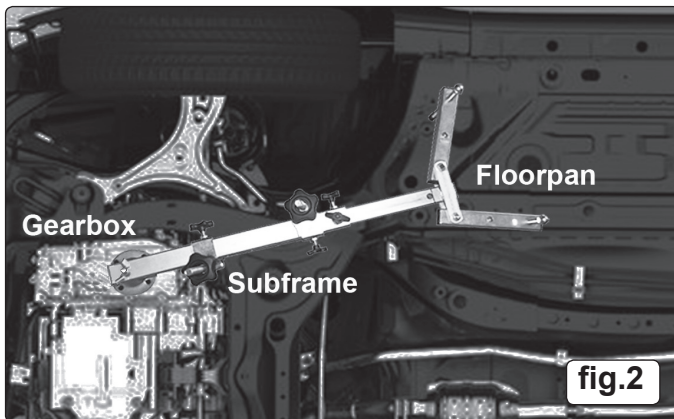

fig.2
- 4.5. Offer up to the vehicle and locate by swinging the hooks over the crossmember to suspend the support (fig.2).